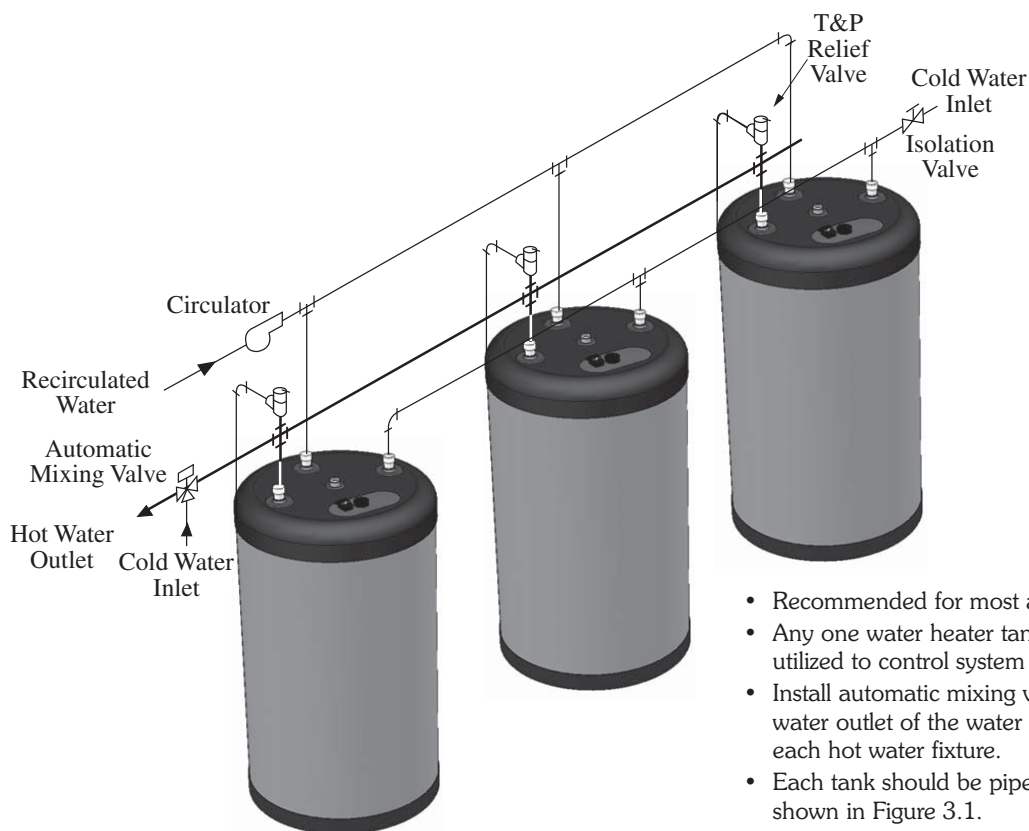

Figure 3.10: Multiple Peerless® Partner® Water Heater System Domestic Piping - Parallel
3. See Figures 3.10 and 3.11 for multiple water heater domestic piping.